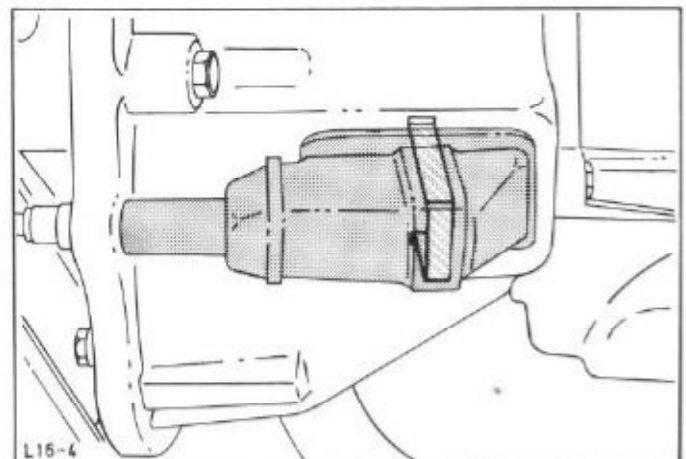

Fig.165. Gaiter and spring retainer in position.
7. Attach the clutch cable to the clutch release lever. Pass the clutch cable through the guide on the clutch housing, fit the gaiter, draw the cable out of the sheath, hold it with pliers and hook it into the release lever. Press the gaiter into the clutch housing with the spring retainer, Fig.165.